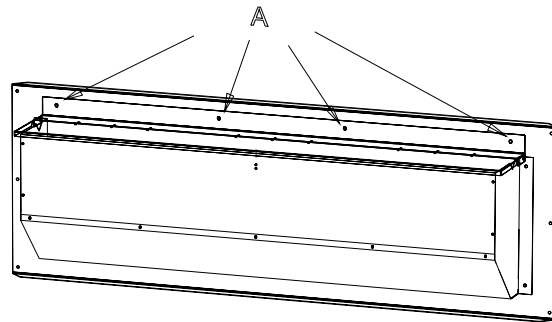

Figure 6
7. Attach lid assembly using 4 1/4-20 x 1/2" bolts and locknuts. See Figure 6